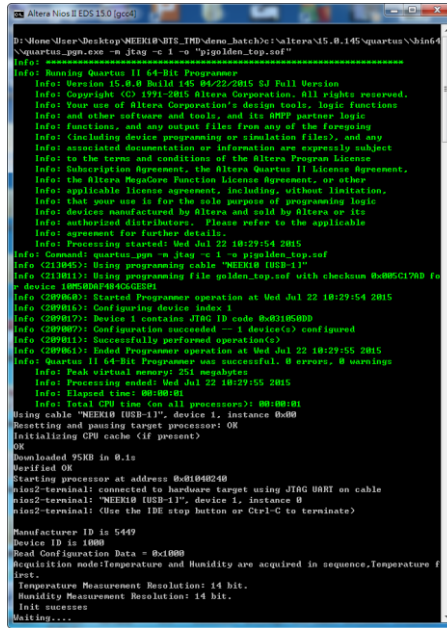

Figure 4-3 Launch the BTS-TMD demonstration from the "demo_batch" folder
5. Locate the "*BTS_TMD\demo_batch*" folder. Execute "*test.bat*" to start the configuration and download the demo application to the FPGA. **Figure 4-3** shows the successful message after execution.